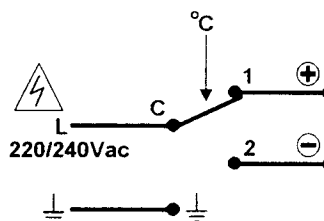

Fig.2
4. Remove the cover for access to the terminals and connect the wires as required, see fig 2. **The Earth must be connected.**